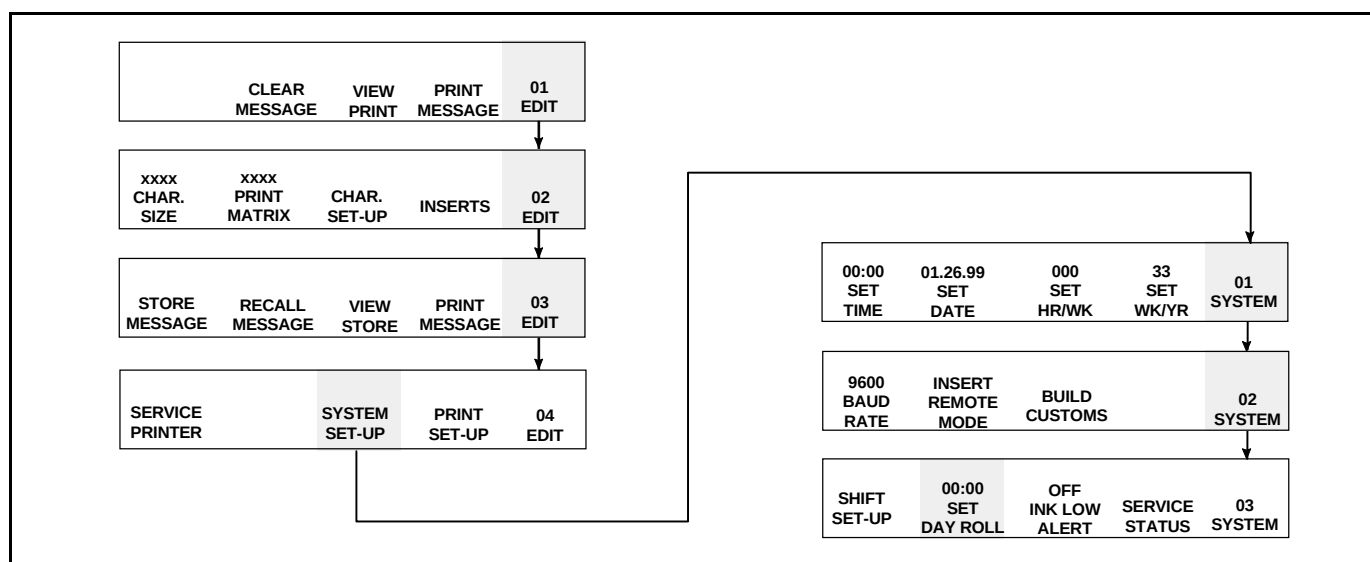

Figure 7-9. Setting the Programmable Date Rollover
1. Begin in Frame <03 SYSTEM>. Refer to Figure 7-9.